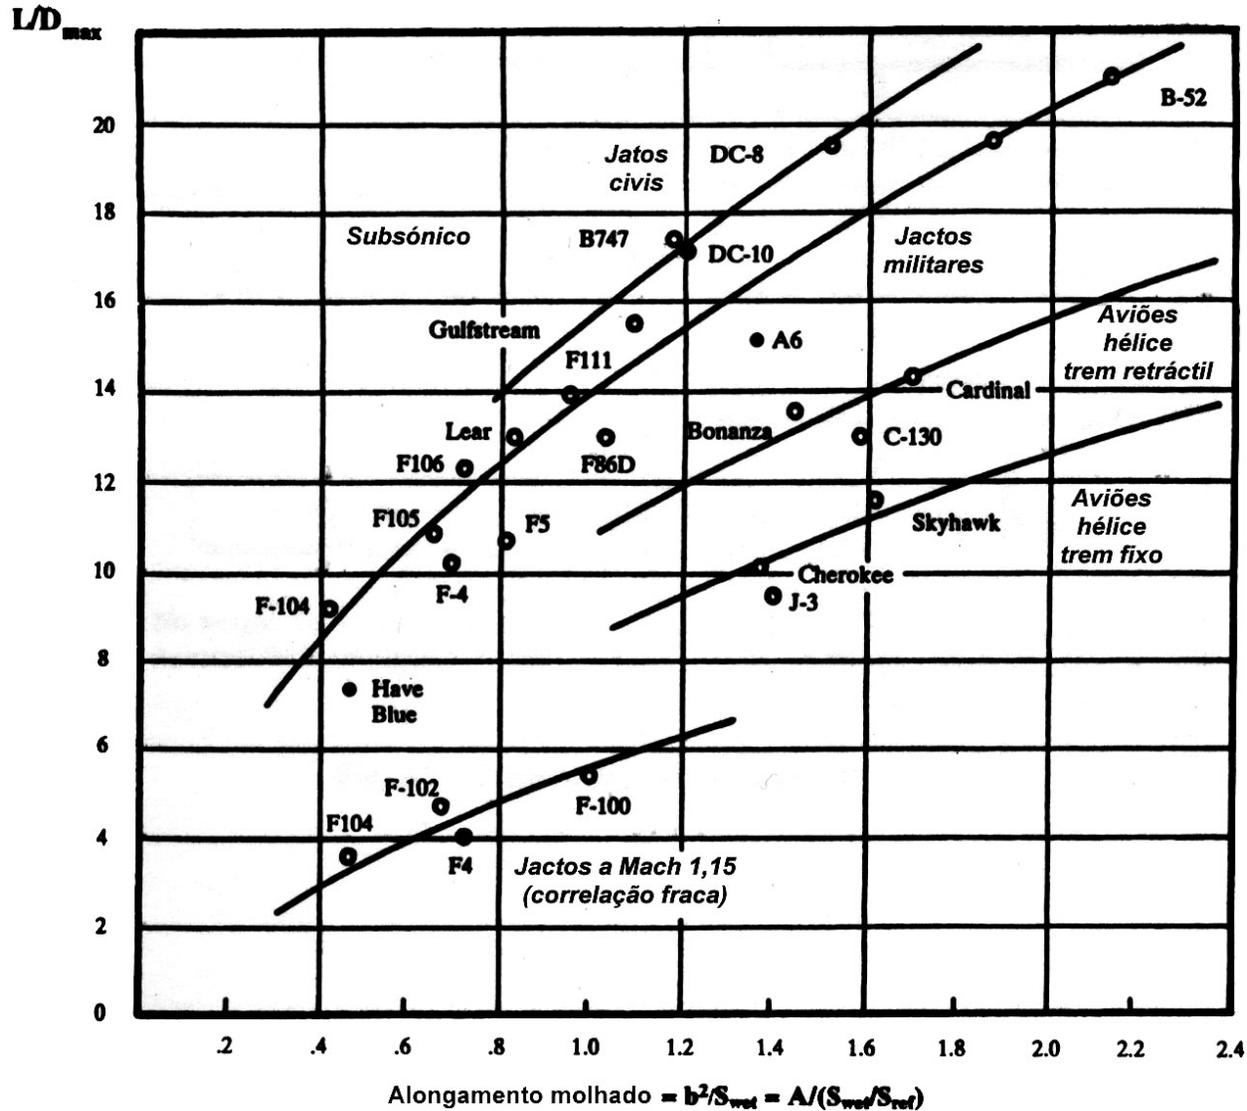

Figura 3
- $(L/D)_{\text{max}} = 12,5$ (figura 3).